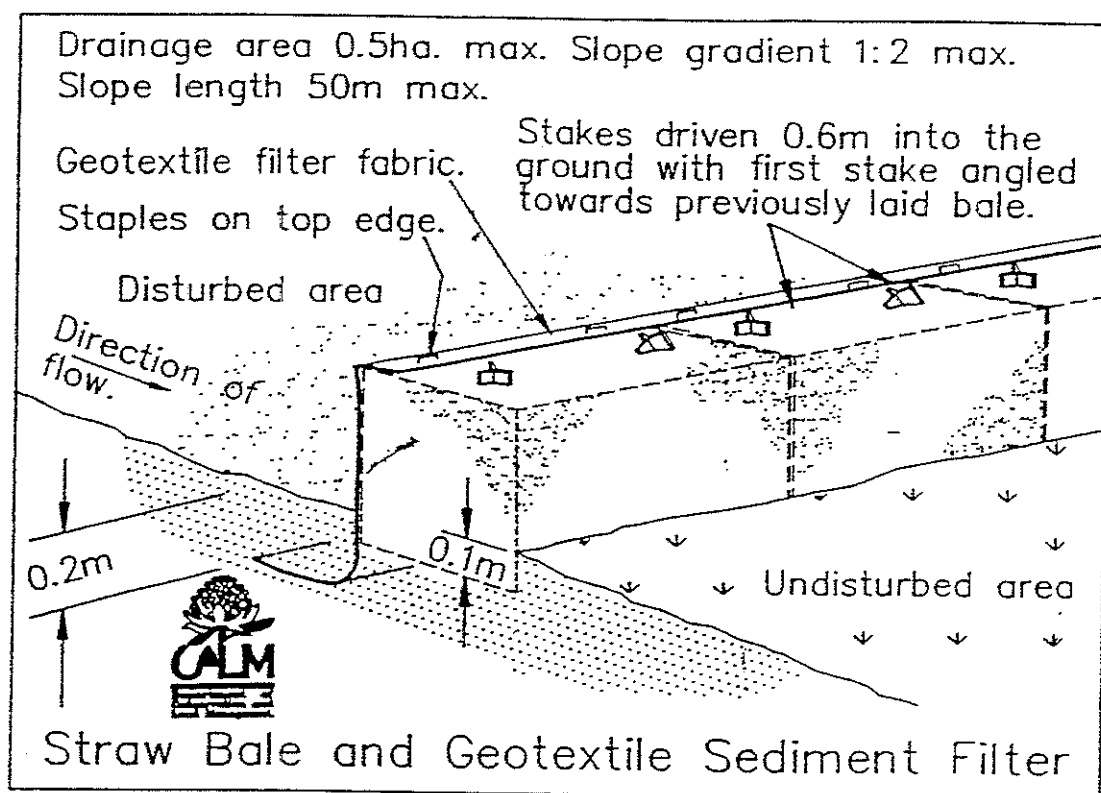
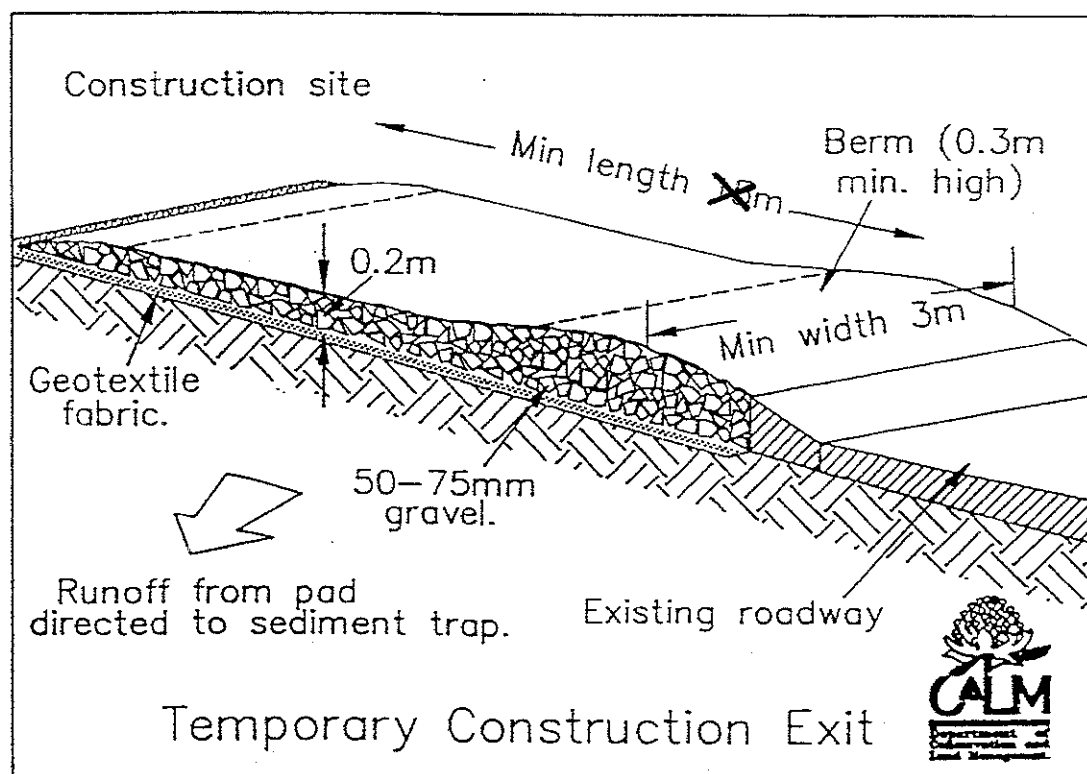

Fig. 3.23
Fig. 3.26
*...The Erosion And Sediment Management Plan as shown on architectural plan CC03 is to be constructed in accordance with the requirements of the NSW Department of Land and Water Conservation's "Urban Erosion and Sediment Control" manual. Please refer to fig. 3.23 (Straw Bale and Geotextile Sediment Filter) in conjunction with Point 3.4.3.3 - Straw Bale-Geotextile Fabric Sediment Filters and Fig. 3.26 (Temporary Construction Exit) in conjunction with Point 3.4.5 - Temporary Construction Exit attached to this specification. Minimum length of construction exit 6m.*
These structures are installed as follows (Figure 3.23):
The exit pad is constructed by placing a layer of geotextile filter fabric over the pad site and covering it with a layer of 50 to 75 mm sized gravel to a minimum depth of 0.2m. Its width should be no less than the full width of the exit point, and its length a minimum of 15m. (Figure 3.26)